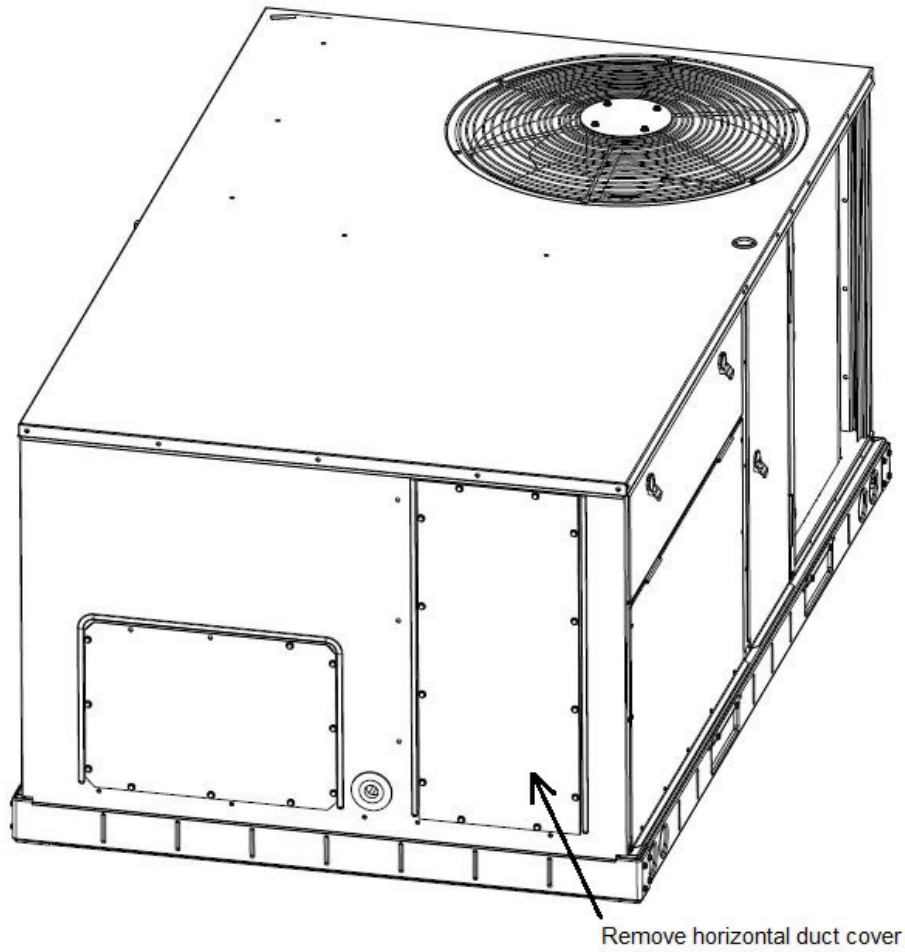

Fig. 1 - Horizontal Return Duct Cover
1. Remove the screws securing the horizontal return duct cover. (See Fig. 1.) Save screws and discard the duct cover.